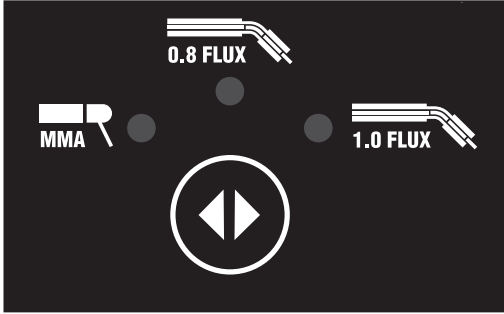

FIG. 5
8.1 WELDING TYPE SELECTION - SWITCH – FIG.5